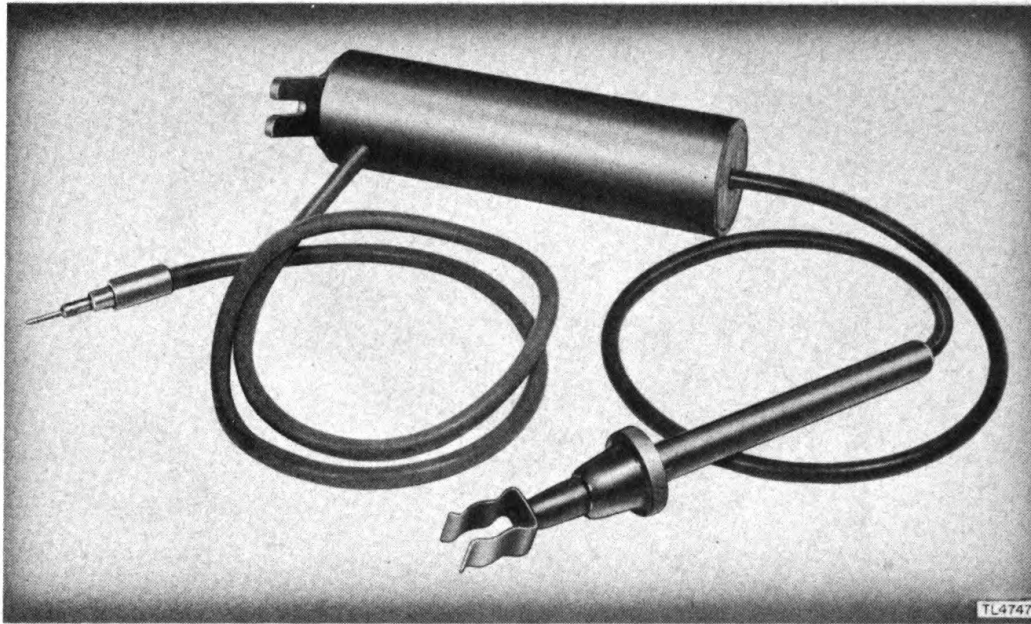

Figure 10. Voltage multiplier.
12. VOLTAGE MULTIPLIER (fig. 10).